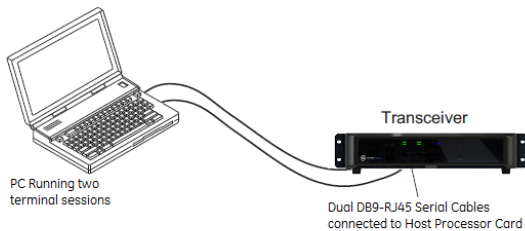

Figure 4. Setup for PC Configuration
5. Set the radio's configuration. Connect a PC to the radio's COM1 and COM2 ports as shown in Figure 4. A straight-thru cable may be used for this connection with an RJ45 to DB9 adapter. **NOTE:** Consult your System Administrator if you are unsure of the settings required for your network.